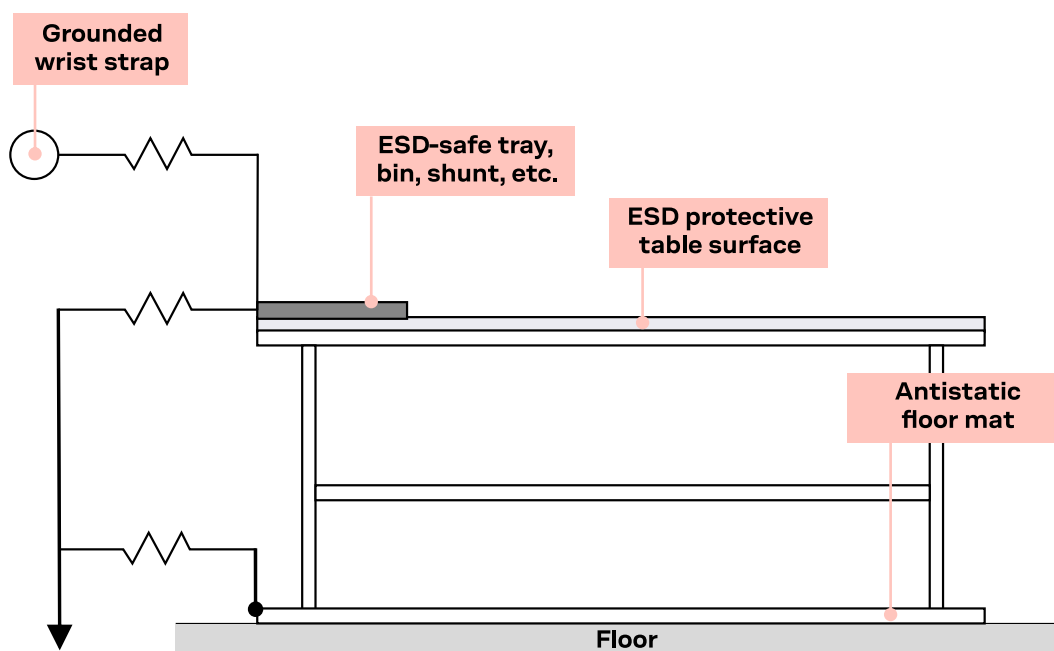

Figure 32: Standard workstation setup for safe handling of ESD-sensitive devices
- Open the package within an ESD-protected area (EPA), as in Figure 32.